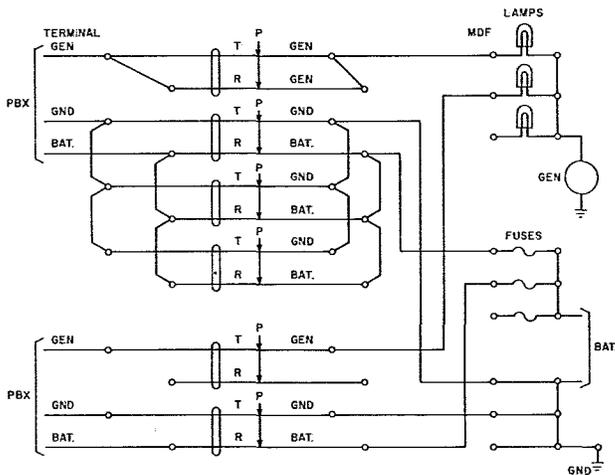

Fig. 2—Typical PBX Battery and Generator Supply
2.02 Small PBXs generally require only one cable pair for the battery feeder. Larger PBXs may make use of several cable pairs in parallel to provide satisfactory battery voltage at the PBX. If the battery current requirements are small enough for one fuse, the parallel arrangement is obtained by strapping the pairs together, tip to tip and ring to ring, at the main frame and at the cable terminal. In this case there will be only one cross-connection from the straps. If the battery current is large, more than one fuse will be used and the cable pairs will be divided into strapped groups at the main frame and at the terminal. Each strapped group will have a cross-connection. Fig. 2 shows the battery and generator supply arrangements for two typical PBXs.